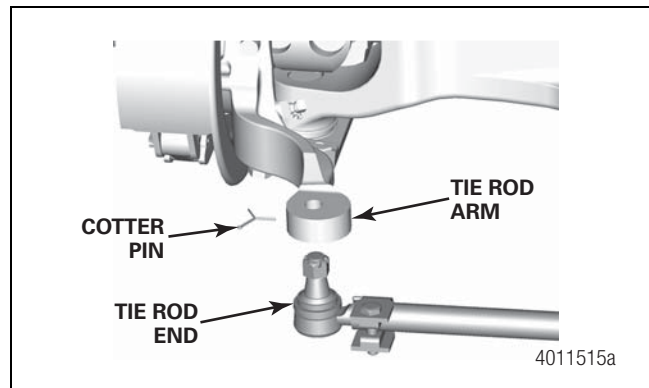

Figure 4.1
2. Disconnect the cross tube assembly from the tie rod arms. If available, use a tie rod end puller to separate the tie rod end from the tie rod arm. Figure 4.1.